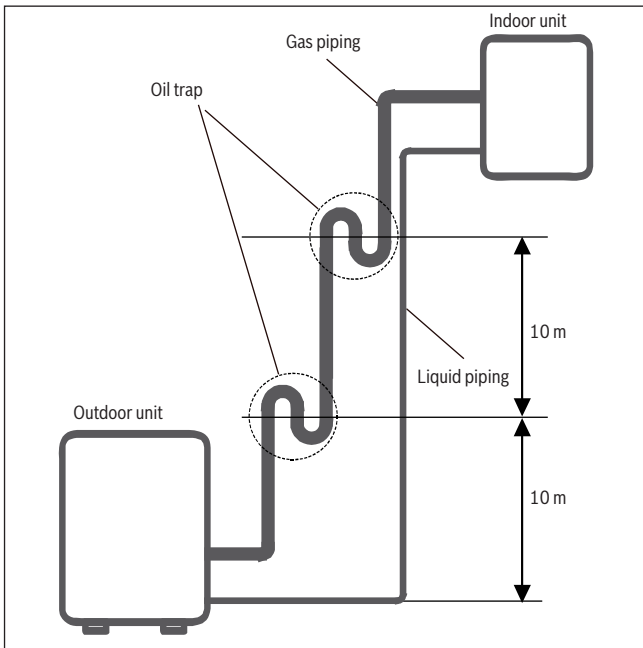

Fig. 35.
-It is recommended that vertical suction risers not be upsized. Proper oil return to the compressor should be maintained with suction gas velocity. If velocities drop below 7.62 m/s, oil return will be decreased. An oil trap should be installed every 6 m of vertical suction line riser. (See Fig. 35)